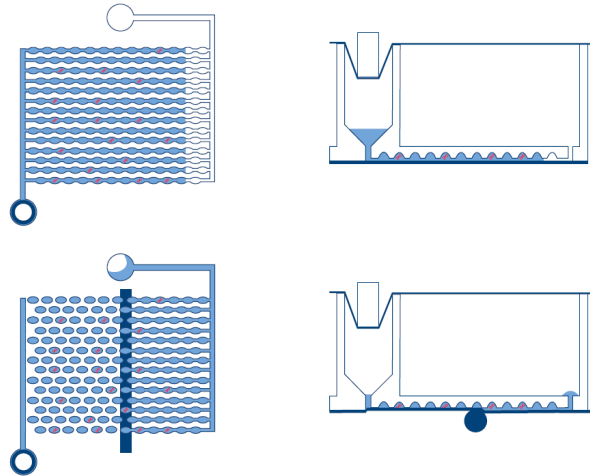

Figure 1. Scheme of filling and partitioning of a well.
- **Partitioning:** In the first instrument module, the microchannels and partitions of the plate are filled with the sample material and dPCR reaction mix. This is accomplished by plunger pins compressing the elastic top seal of the nanoplate over each well. This creates a positive pressure that pumps the input well liquid into the microchannels and partitions. Subsequently, the connecting channels between the partitions are sealed by activation of a pressure sensitive adhesive through a pressure-controlled rolling process (see Figure 1).
- Imaging:** The final process step is the image acquisition, which captures the signal from each partition of the nanoplate wells. Within Utility mode, the user can configure the detection channels and imaging settings using the experiment setup functionality within the Software Suite. Within the IVD mode, the imaging settings are preset to optimized conditions, requiring no configuration by the user. The partitions which contain a target molecule will emit fluorescence with higher intensity than partitions without target (see Figure 1). For more details and specifications on the imaging system, see Section 8 Technical Specifications.